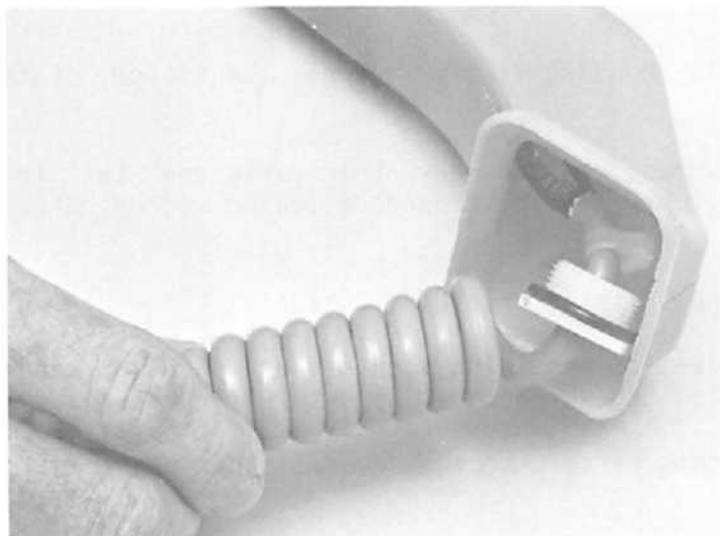

Figure 4-8.
7. See Figure 4-8. Place the connector end of the cable into the large end of the housing. The square flange on the strain relief will usually align itself, but a second try may be necessary.